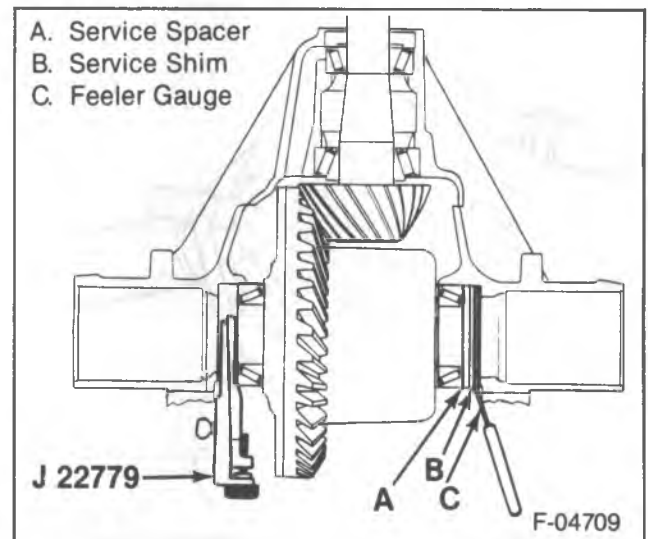

Figure 21—Measuring Side Bearing Shim Requirements
- Move the tool back and forth in the bore while turning the adjusting nut to the right until a noticeable drag is produced (figure 21).